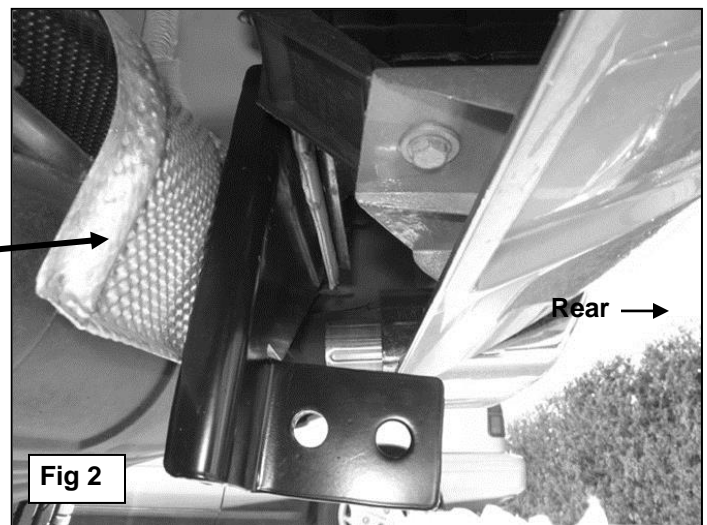

Fig 2
2. Start installation at the passenger side-rear of the vehicle. Locate the factory bumper bracket, **(Figure 1)**. Remove the (2) factory hex nuts on the bottom of the bracket. Select the Passenger side Frame Mounting Bracket. Line up the (2) top holes in the Bracket with the threaded studs on the factory bumper bracket. Bolt the Frame Bracket to the bumper bracket with the factory hex nuts, **(Figures 2 & 3)**. Snug but do not fully tighten hardware at this time.